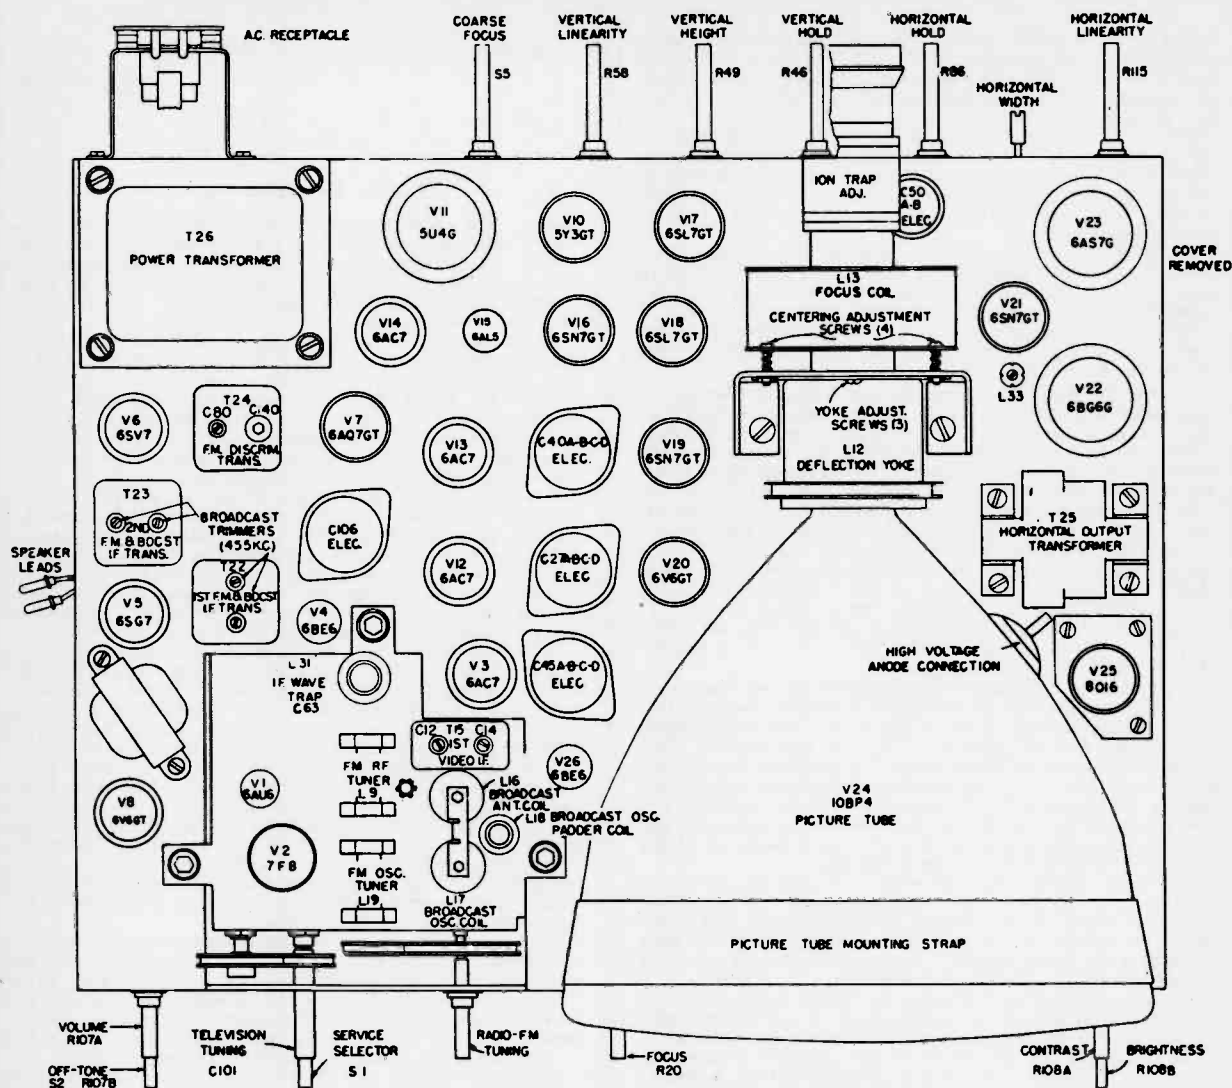

Fig. 14. Component Location, Top View of Chassis
**ALIGNMENT SUGGESTIONS**—All trimmer locations are shown in the drawings of Figures 14 or 17. Remove the chassis from the cabinet and turn it on its side with the power transformer down. This is the only safe position in which the chassis will rest and leave all adjustments accessible. The following suggestions apply to each individual alignment procedure.